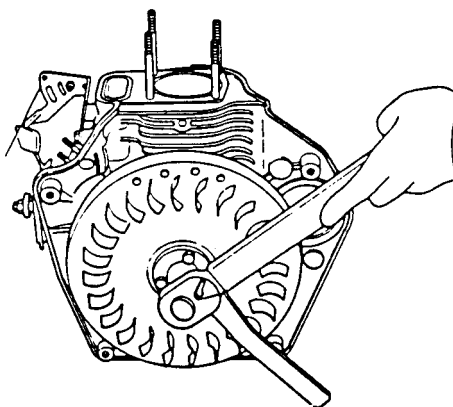

Figure 5-29. Flywheel Locking Handle
- (1) Shut down generator set.
- (2) Remove cooling fan cover, refer to paragraph 4.53.b.
- (3) Remove starter pulley from flywheel, refer to paragraph 4.54.b.
- (4) Install flywheel locking handle (Figure 5-29).